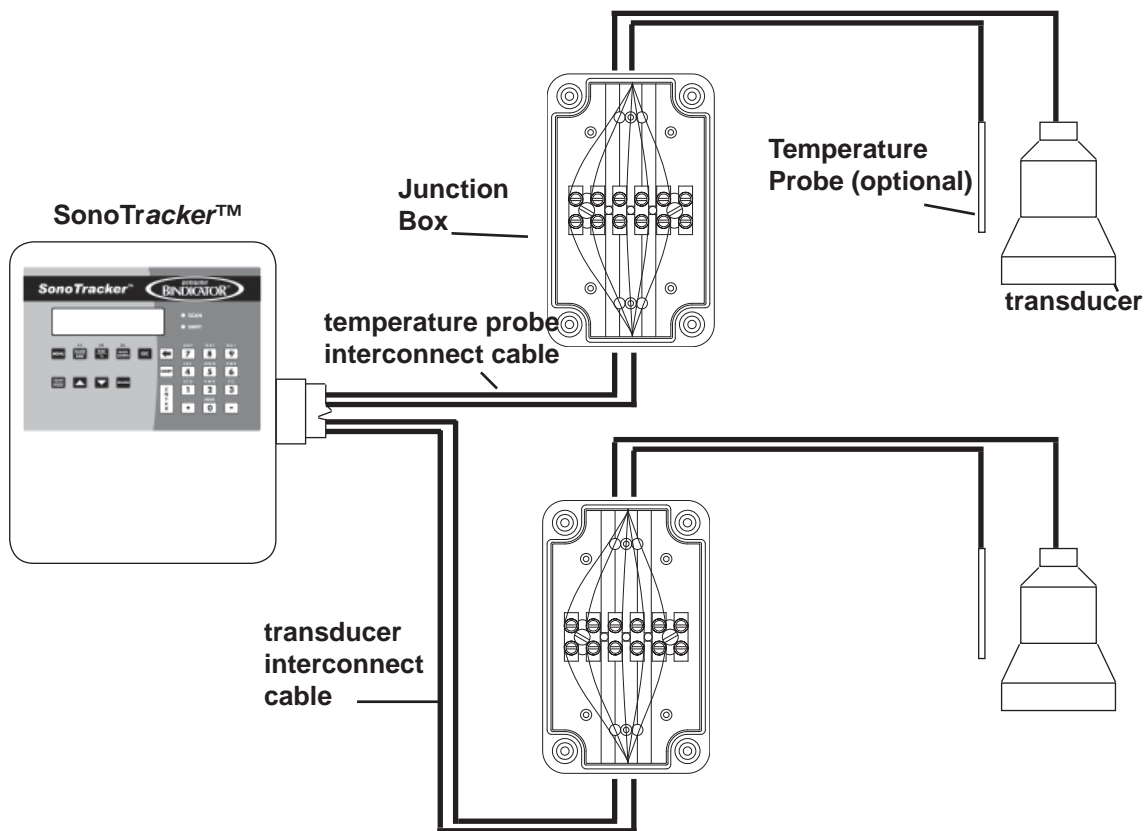

Figure 2-4. Wiring Transducers to SonoTracker™
See Figure 2-4. Avoid cutting the transducer cable if possible.
1. See Figure 2-4 for wiring at the junction box.